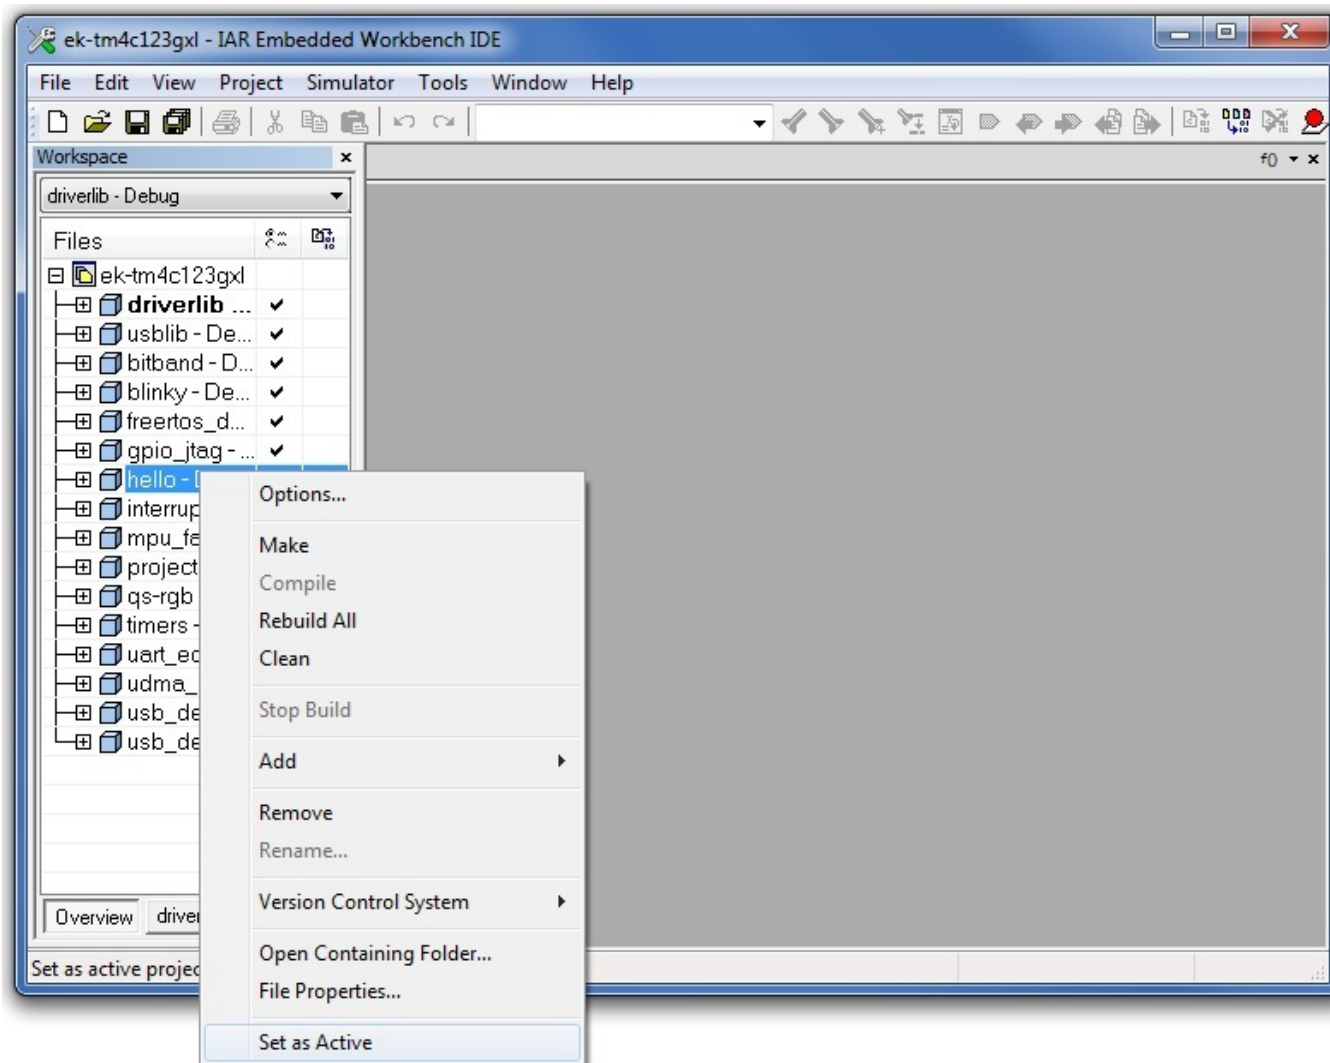

Figure 3.
2. Right-click the Hello example and select Set as Active to make the project the target project for debugging (see Figure 3).